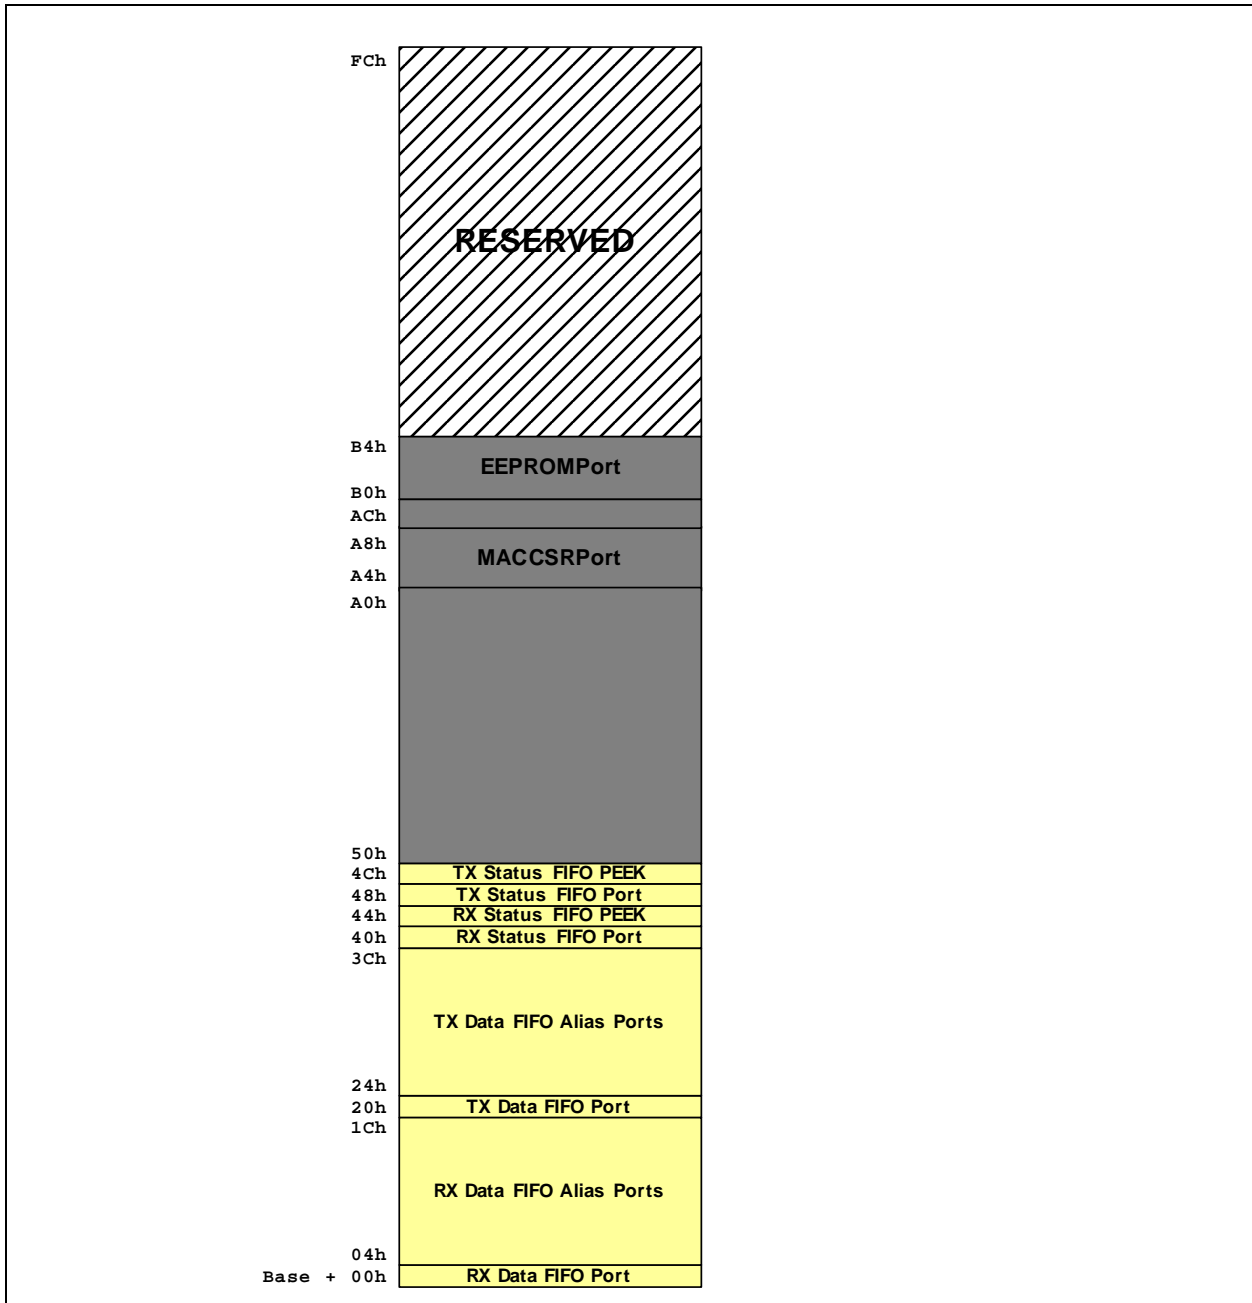

Figure 5.1 LAN9115 Memory Map
**Note 5.1** The LAN9115 host bus interface supports 16-bit bus transfers; internally, all data paths are 32-bits wide. Figure 5.1 describes the memory map with respect to pairs of atomic 16-bit transactions.